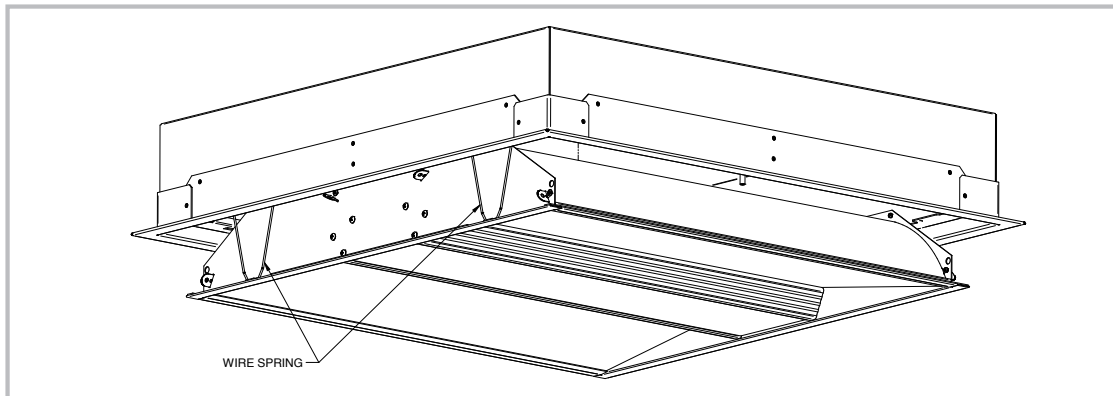

Figure 4: Installing or Removing Lens/Reflector Assembly
8. Lift fixture into ceiling opening, ensuring the (4) 1/4"-20 bolts from Step 4 pass through the (4) housing holes produced in Step 6. Install rubber washers, steel washers, and 1/4"-20 nuts as shown in *Figure 4*.
9. Tighten the (4) 1/4"-20 nuts sufficiently to draw fixture up and create full surface contact of the fixture flange to the ceiling opening. Inspect around the fixture to ensure that the flange is tight to the ceiling. Apply sealant (by others, verify proper sealant for this application) where necessary to fill all gaps in between the flange and the ceiling.
1. Reinstall the lens/reflector assembly by squeezing the wire springs and passing them through the guide slots in the housing. Reflector assembly may rest in the lower position temporarily if needed. See *Figure 4*.